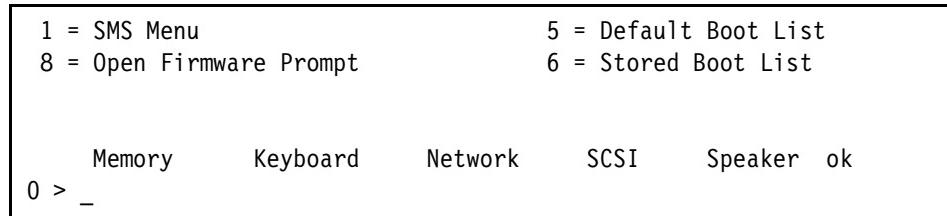

Figure 8-23 Open Firmware prompt
1. Type 8 during the LPAR boot process to go to the Open Firmware prompt, as shown in Figure 8-23.